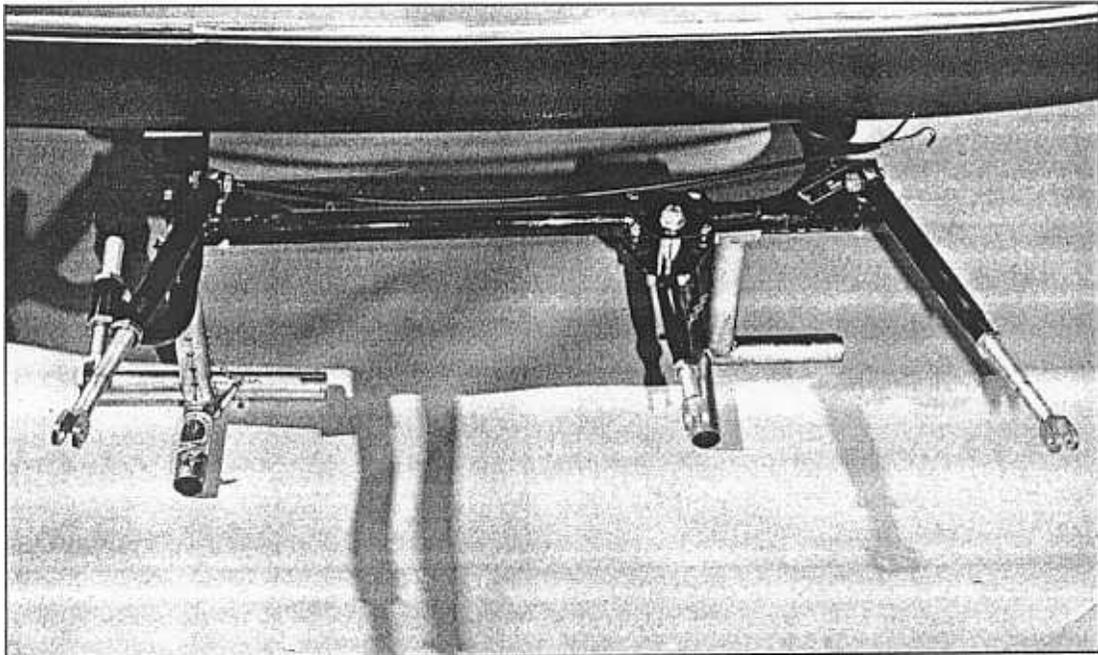

FIGURE 10. Top long Struts must be angled outward from the sidecar.
12. **CAUTION** The long **Struts** connected to the top **U-Clamps** on the motorcycle frame must not be parallel to each other. When viewed from the top, the **Struts must be angled outward** from the sidecar frame to the motorcycle frame, as shown in figure 10. This angling of the **Struts** provides stability and lessens stress on the motorcycle and sidecar. From the standpoint of safety, each **Clevis Adjusting Bolt** must be threaded into its **Strut** at least two inches deep.